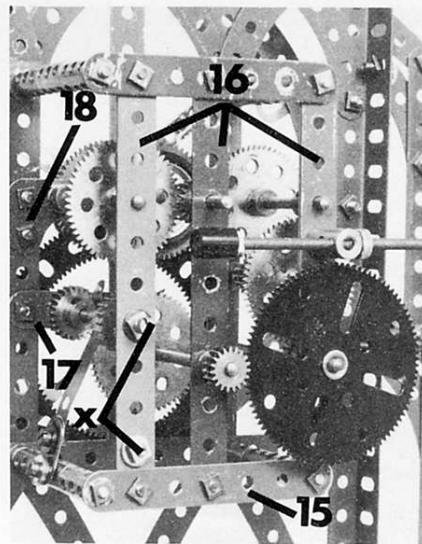

FIG. 14: The 2" Strip 17 requires careful adjustment to insure the best operation.
**MECHANISM FRAME** Figures 14, 15